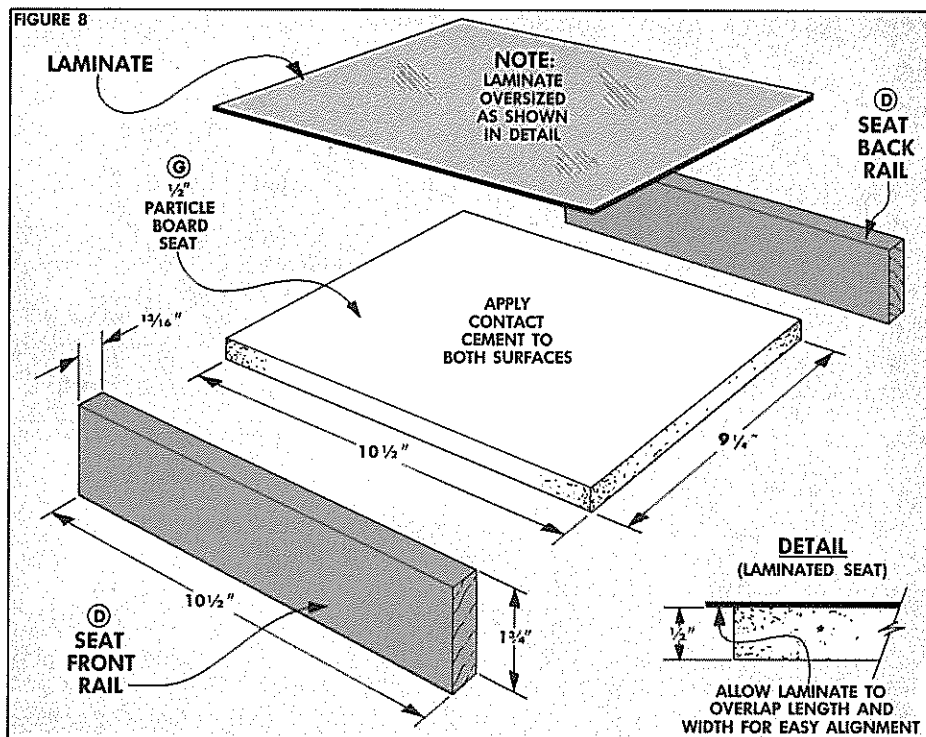
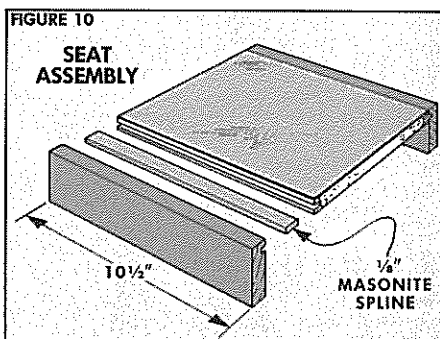

FIGURE 9
FIGURE 11
**TRIM LAMINATE.** To trim the laminate flush with the particle board, I used a flush trim bit in the router table, see Fig. 9. Begin by adjusting the bit so it projects about  $\frac{3}{8}$ " above the router table surface. (This keeps the pilot bearing on the edge of the particle board, see Detail.) Then trim off the overhanging laminate.
**SEAT ASSEMBLY.** The seat is attached to the front and back rails (D) with a groove and spline joint. The grooves can be cut on a table saw, but I decided to use a  $\frac{1}{8}$ " slot cutter on the router table.
**SEAT GROOVE.** Begin by adjusting the height of the slot cutter so it's  $\frac{1}{4}$ " above the router table surface, see Fig. 11. The depth of the groove in the particle board is  $\frac{1}{2}$ ". (Since this is the depth the slot cutter cuts with the standard pilot bit, I adjusted the fence so it was in line with the pilot, see Step 1 in Fig. 11.)
**RAIL GROOVE.** After cutting the grooves in the seat, matching grooves are cut on the inside faces of the rails. Leave the slot cutter at the same height, but reposition the fence so the edge of the cutter projects only  $\frac{1}{4}$ ". Then place the *top* edge of the rail *down* against the router table and cut these grooves, see Step 2 in Fig. 11.
Then apply glue to the groove and to the facing edges of the seat and rails, insert the splines, and clamp the pieces together, see Detail in Fig. 11.